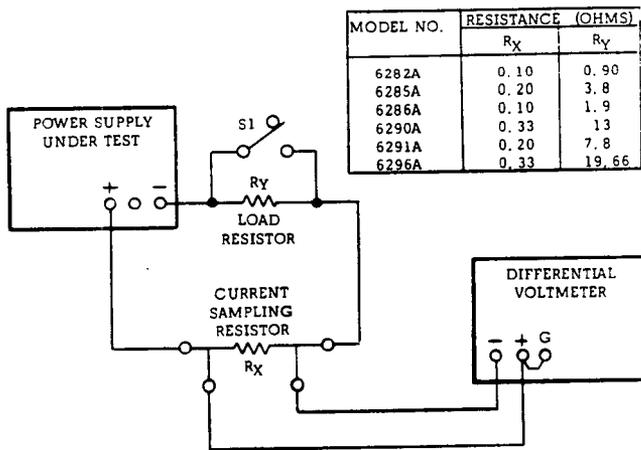

Figure 5-4. Output Current Test Setup
- Connect test setup shown in Figure 5-4, leaving switch S1 open.
a. Connect test setup shown in Figure 5-4.
a. Utilize test setup shown in Figure 5-4 leaving switch S1 open throughout test.
a. Use test setup shown in Figure 5-4, except connect AC voltmeter across sampling resistor instead of differential voltmeter.